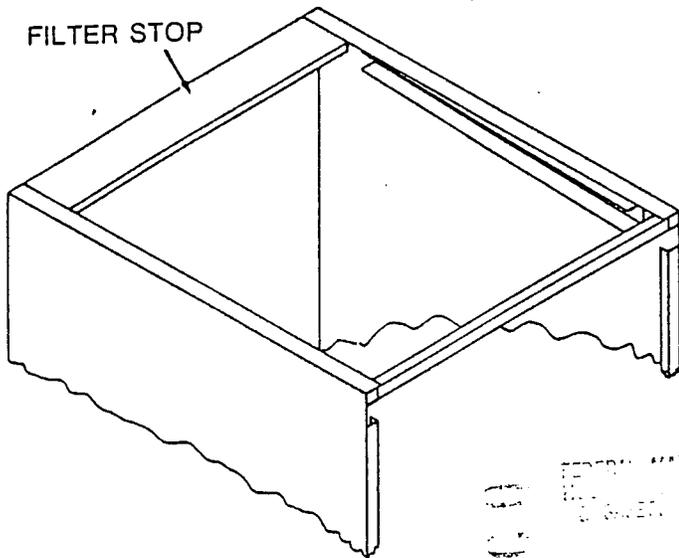

FIGURE 7
- e. Remove filter stop from furnace. See figures 7 and 8.